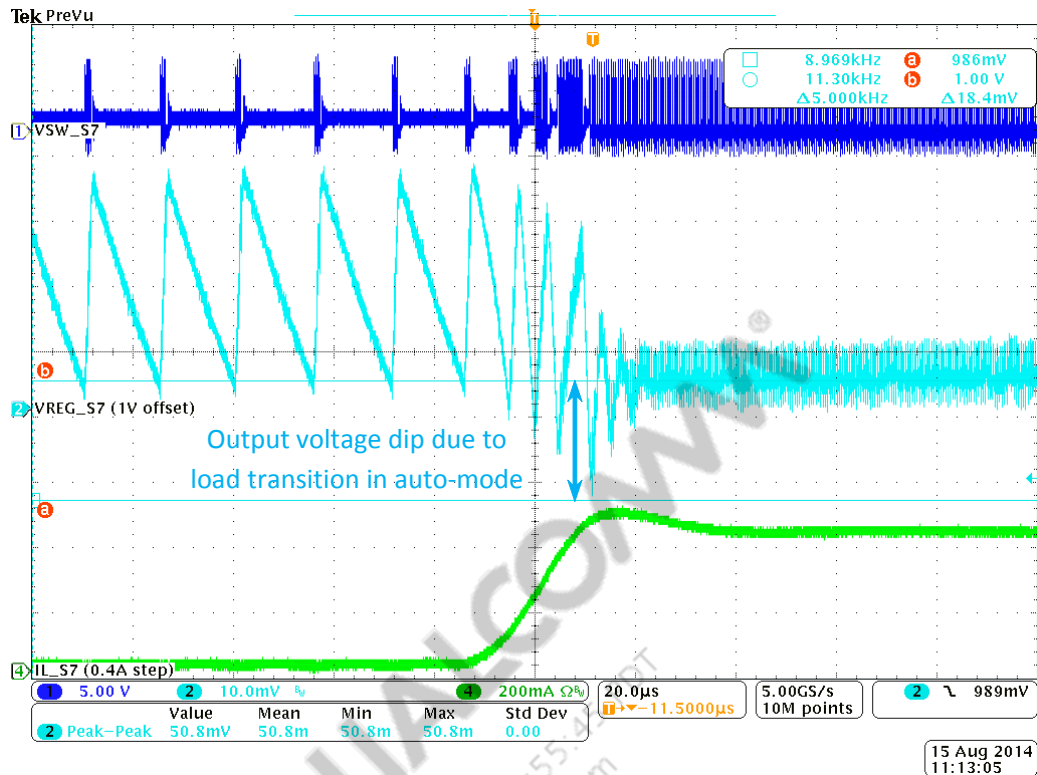

Figure 15 HF-SMPS load transient dip measurement
- **Figure 15** – load transient dip measurement of HF-SMPS in auto-mode